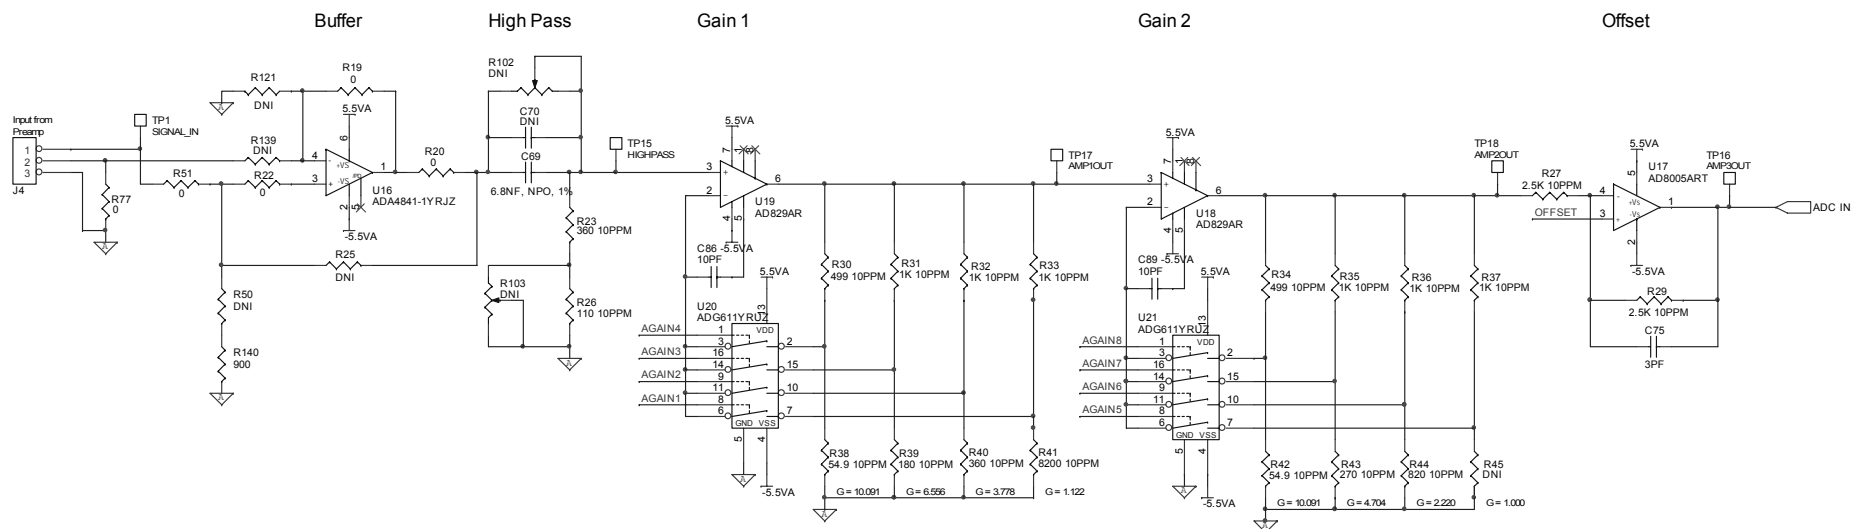

Figure 7-4. Schematic of the analog prefilter circuit in the DP5.
The analog prefilter circuit (Figure 7-4) includes four main elements: (1) input buffer, (2) a high pass filter with a 3.2 μsec time constant, (3) two gain stages, and (4) an amplifier providing DC offset.